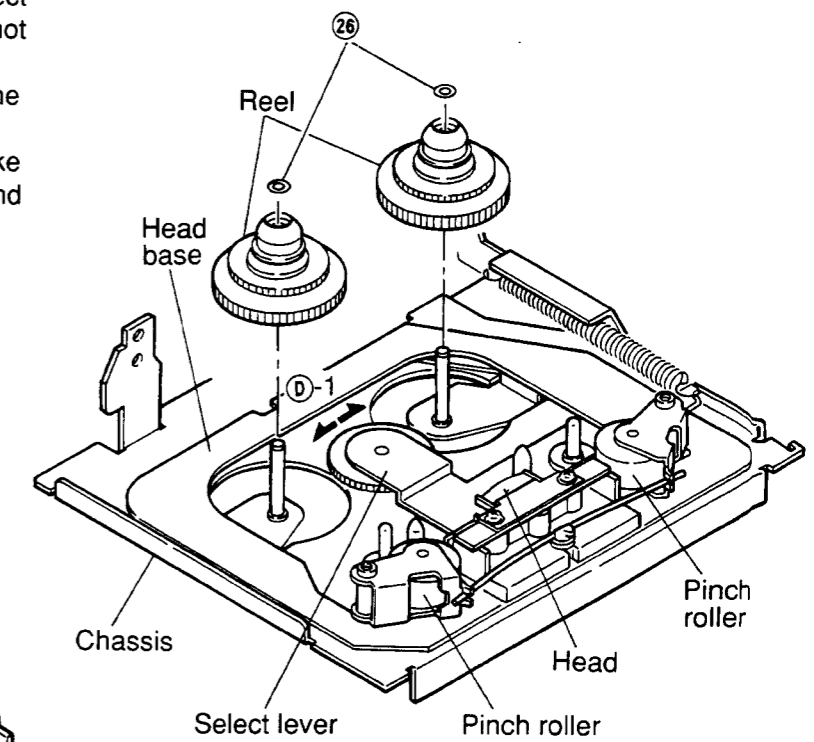

Figure 19
- (1) Remove M1.7 two lock washers ㉗ (Refer to figure 19).
- (2) Move the select lever in the direction marked ㉘-1 in the Figure and remove the reel by gripping the reel gear as shown in Figure 19.
- (3) After replacement, mount the new reels following the removal steps in the reverse order.
- (4) After mounting, check the tape speed and the wow and flutter with test tape MTT-111.